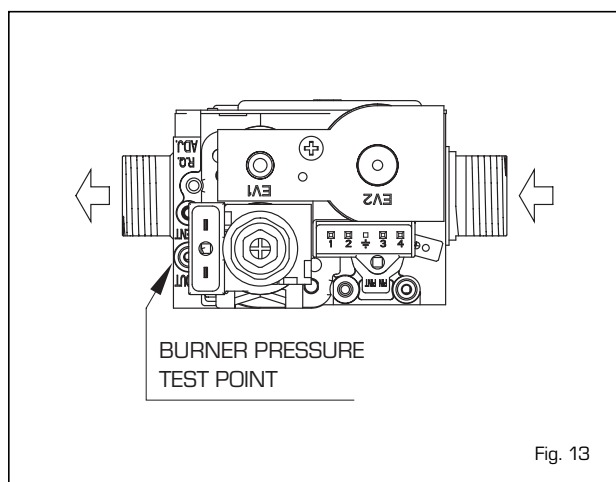

Fig. 13
- Remove the screw and connect a pressure gauge to the burner pressure test point on the gas valve (fig. 13).